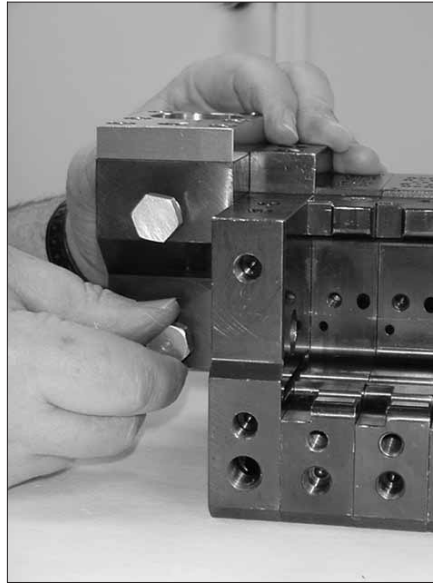

Figure 7-68 Installing the filter block transducer plugs
4. See Figure 7-68. Using a $\frac{1}{4}$ -in. wrench, install and tighten the filter block transducer plugs.